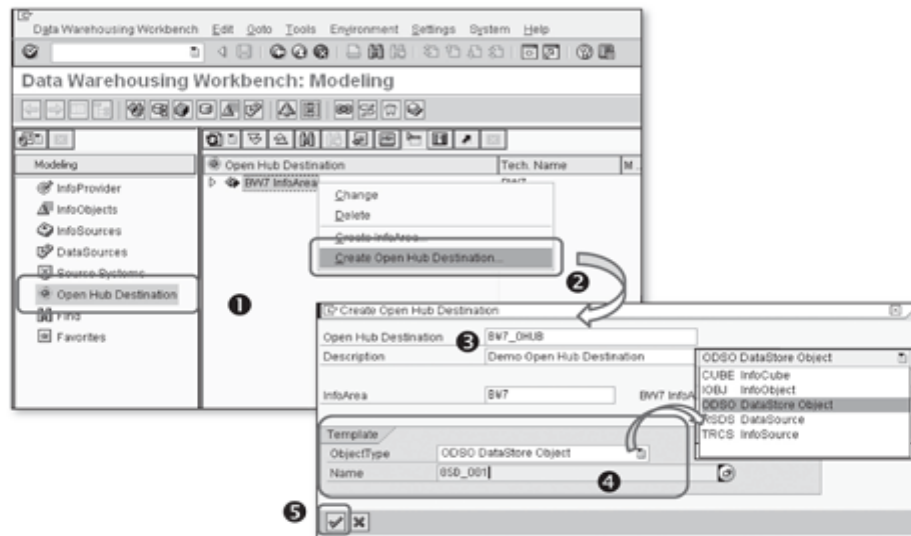
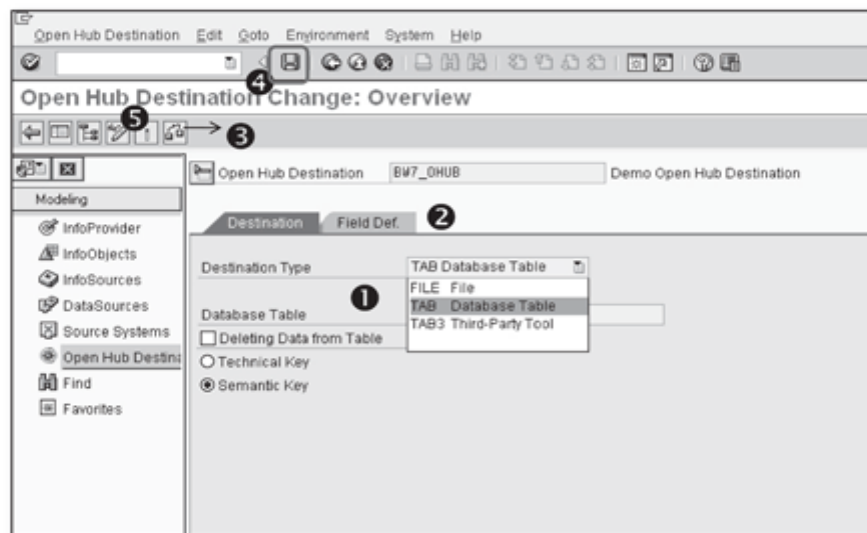

Figure 15.2 Create Open Hub Destination
Figure 15.3 Define OHD
is created and maintained in the Data Warehousing Workbench (DWW), under the Modeling section (❶ of Figure 15.2). The InfoArea tree is displayed on the right panel of the screen.
To create an OHD, select Create Open Hub Destination from the context menu of the InfoArea where you want to create it (❷ of Figure 15.2). A pop-up box appears for entering the technical name and description of the OHD (❸). To reduce development time, you can also use the object from which you are going to load data as a template to create the OHD definition (❹). Click on OK to continue with the OHD creation (❺). The detailed OHD definition is maintained on the screen shown in Figure 15.3.
- ▶ **Destination:** The open hub service allows you to transmit data to various destinations. On the Destination tab (❶ of Figure 15.3), you can define the destination where the data needs to be sent.
- ▶ **Field Definition:** The fields and format in which the data has to be sent to the destination is defined in the Field Definition tab (❷).